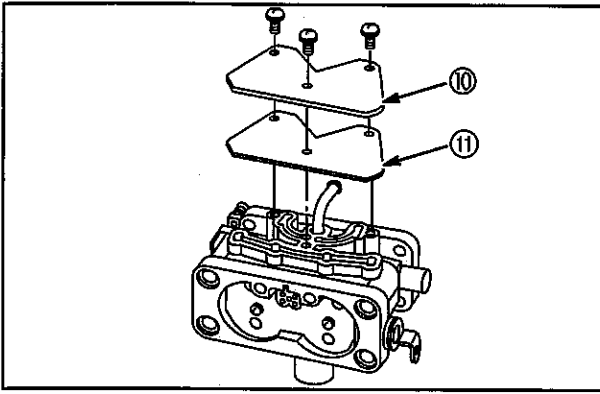

Fig. 119
- Remove cover plate (10). Discard gasket (11), Fig. 119.